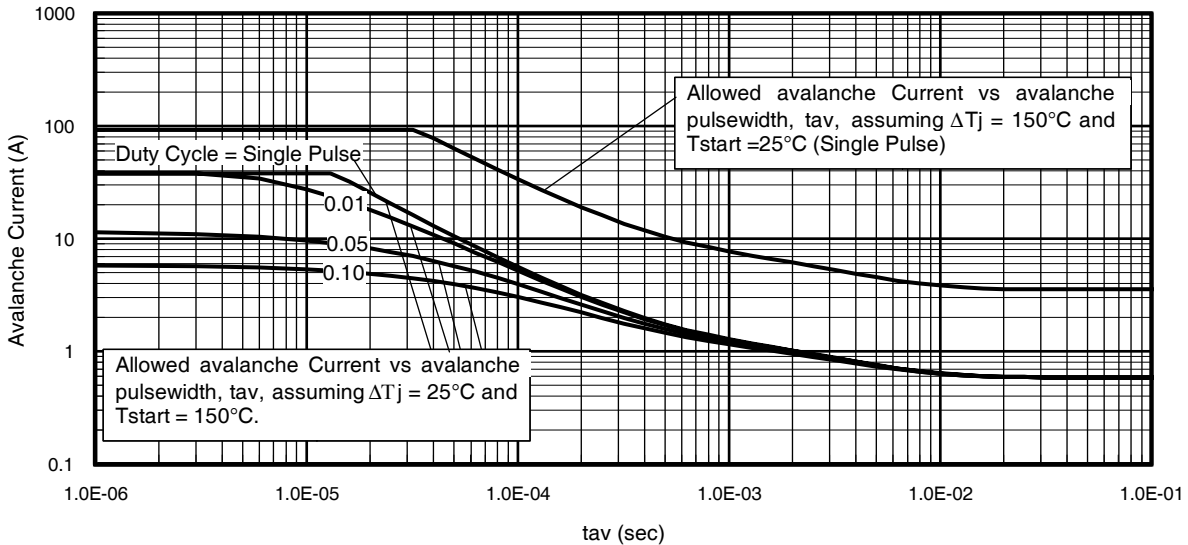

Fig 14. Typical Avalanche Current vs.Pulsewidth
Notes on Repetitive Avalanche Curves , Figures 14, 15:
7. ΔT = Allowable rise in junction temperature, not to exceed T_{jmax} (assumed as 25°C in Figure 14, 15).